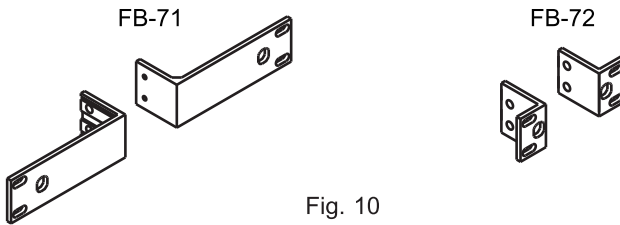

Fig. 10
2. Optional FB-71 rackmount kits for one 1/2RU receiver or FB-72 one 1RU receiver, Fig. 10.